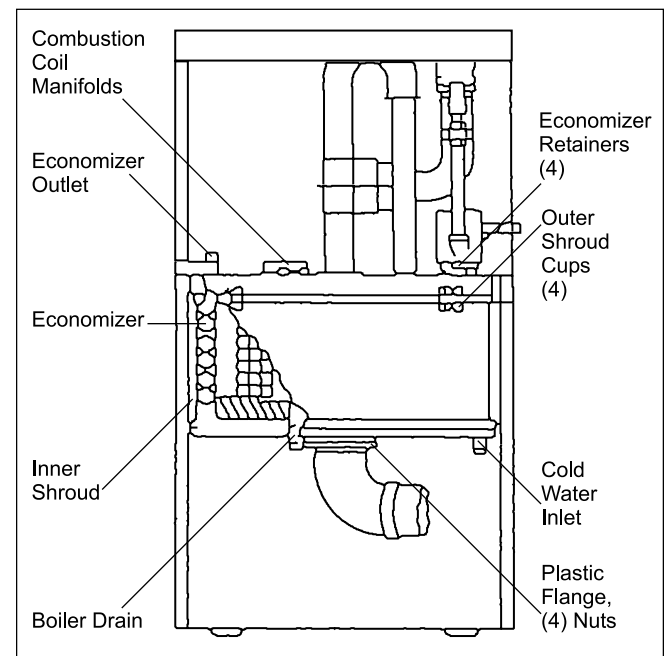

Figure 18. Cutaway view.
- Undo the four economizer retainer nuts (see Figure 18). Remove the boiler drain valve.
- Undo the four clamps that hold the outer shroud to the upper head (see Figure 18).